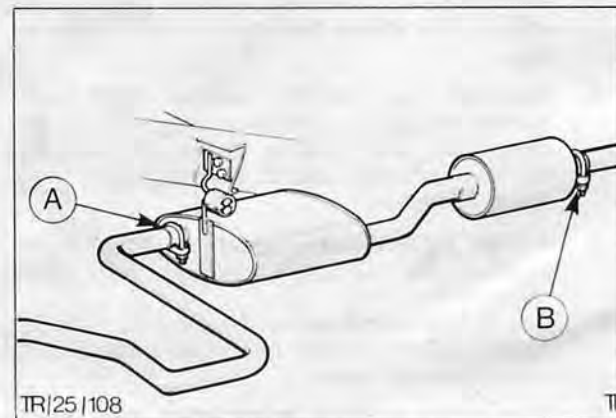

Fig. 10. Front muffler section
10. Connect front muffler section to front down pipe, using an exhaust sealer on the joint, to ensure a gas tight fit, Fig. 10.